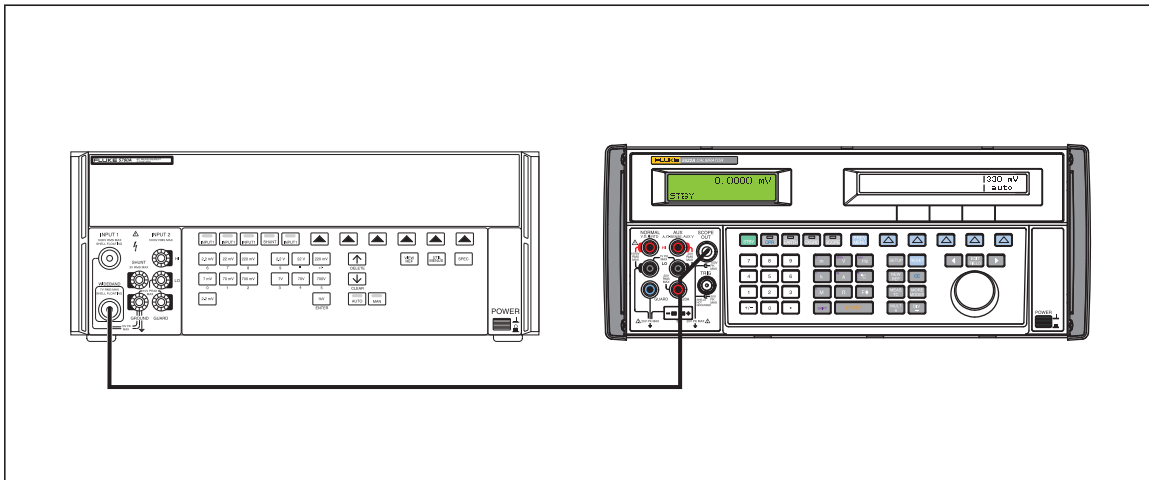

Figure 7-11. Calibrator to 5790A Measurement Standard Connections
3. Connect the Type N connector to the HP 5790A WIDEBANC input. See Figure 7-11.